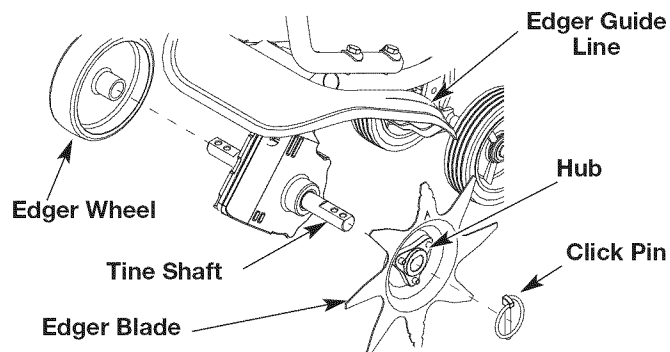

Fig. 4
1. Push the On/Off switch to Off (O) position to stop engine and tines and disconnect spark plug to avoid accidental starting.
3. Slide the edger wheel, with the hub facing inward, onto the right side of the tine shaft and secure with the click pin in the inside hole (Fig. 4).
4. Slide the edger blade with the hub facing out onto the left side of tine shaft and secure with the click pin in the inside hole (Fig. 4).